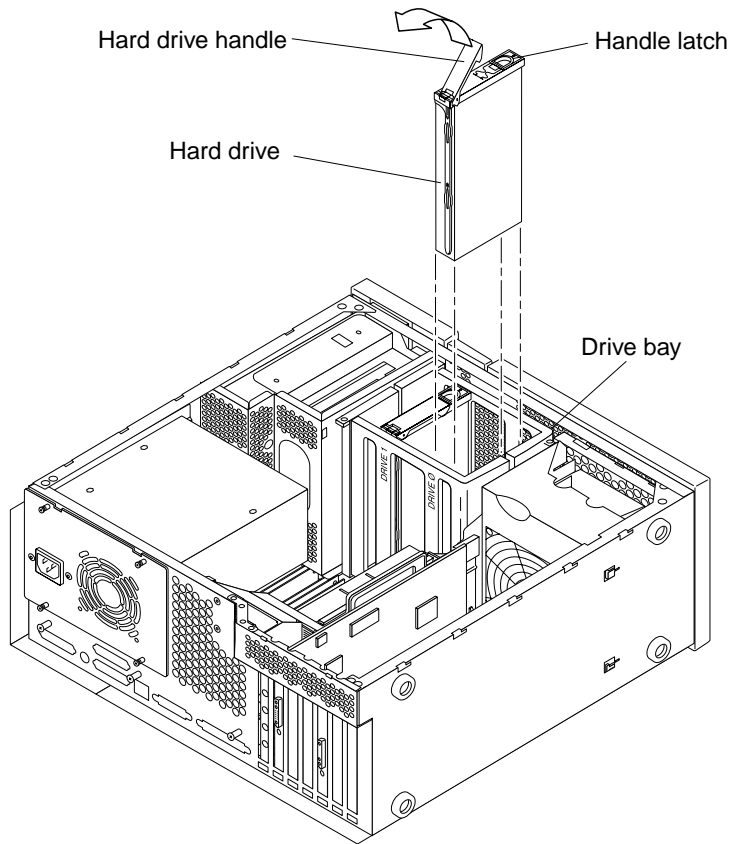

FIGURE 9-1 Removing and Replacing a Hard Drive
4. Remove the hard drive as follows (FIGURE 9-1):
1. **Replace the hard drive as follows (FIGURE 9-1):**